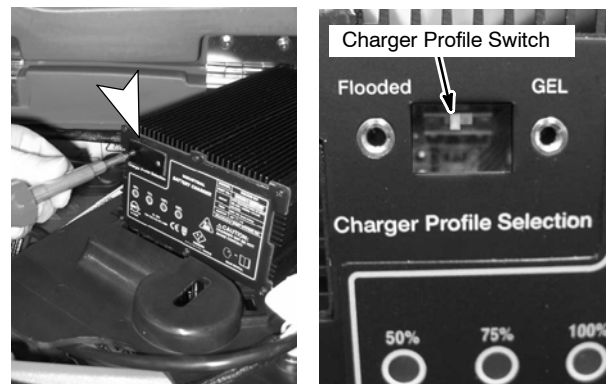

FIG. 36
2. Remove the “Charger Profile Selection” panel and position the switch towards the proper setting: “GEL” or “Flooded” (Figure 36). The charger cord must be unplugged when resetting.